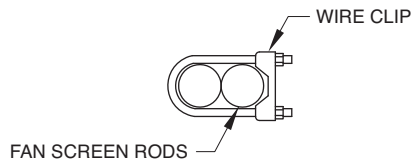
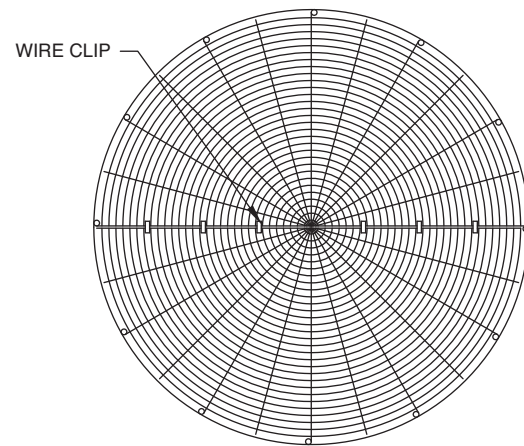

Figure 22 - Wire Clip Arrangement
Figure 23 - Wire Clip Spacing
3. Join the two screen halves with wire clips (Figure 22). There should be 4 wire clips on each side of the fan screen. Space the wire clips evenly across the radius of the fan screen as shown in Figure 23.
3. Join the two screen halves with wire clips (See Figure 22). There should be four clips on either side of the fan screen. Space them evenly as shown in Figure 23.